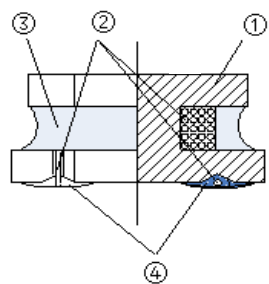

Fig.4-3
- 2) Structure: See **Fig.4-3** and **Table 4-2**.